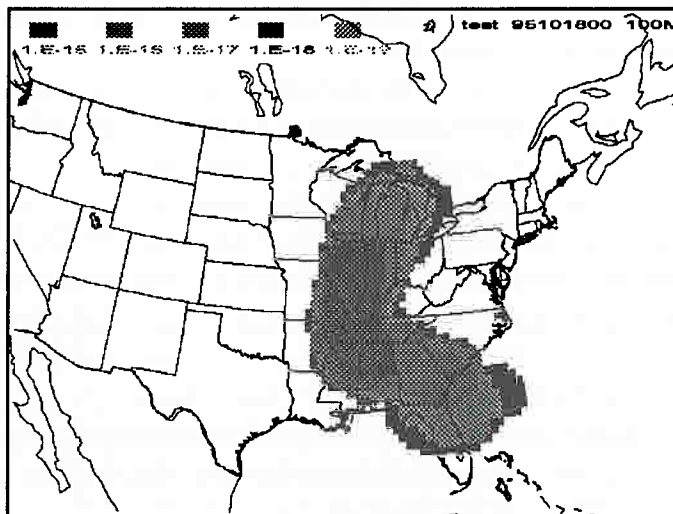

Figure 3. Concentration from the screen display.
Step 12 - selecting *Concentration Display* directly plots the binary concentration file on a map background. The concentration pattern, color coded for each order-of-magnitude range will be drawn directly to a window. If everything has worked correctly, the sample *Control* file and data will produce four different air concentration maps, with the last pattern similar to the one shown in Fig. 3, which represents the last 12-hour averaging period of the 48-hour simulation. The display can be printed or copied to the clipboard. The print quality is limited by the screen display. Note that the color filled boxes are the same size as the resolution set for the concentration output grid. If the boxes are too large for a particular application, then the resolution must be reduced. See further discussion about the *Control* file in Section 2.2.3.